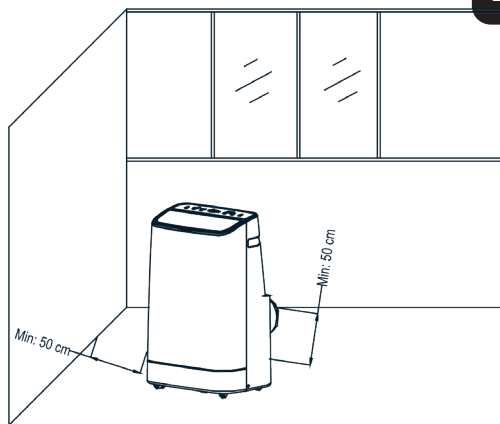

Figure 4
1) Move the machine with installed heat pipe and fittings before the window, and the distance between the body and walls or other objects shall be least 50 cm (as shown in Figure 4).